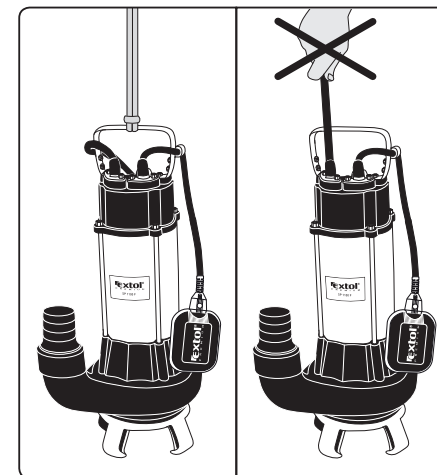

Fig. 5, illustrative figure
7. Gradually lower the pump tied on the rope into the water (fig. 5), ensuring that the pump is submerged as far as possible with respect to the water level. The pump must not be lowered into the water by holding the power cord as this could result in compromising the seal around the power cord at its entry into the pump and the ingress of water into the electrical part of the pump and injury or death of persons by electrical shock.